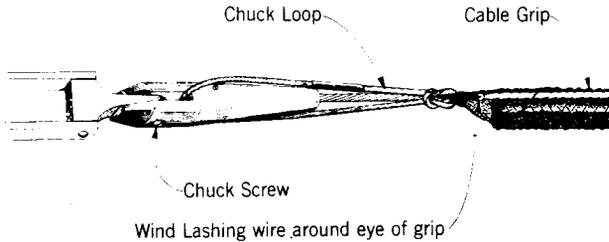

Fig. 6 — E Cable Leader With Suspension Strand and Cable Attached
2.07 To attach the cable to the cable leader, place a cable grip of the proper size on the cable and attach the chuck loop to the eye of the grip by feeding the loop through the eye and back through itself. The chuck loop is then placed through the mounting slot in the chuck as shown in Fig. 6.